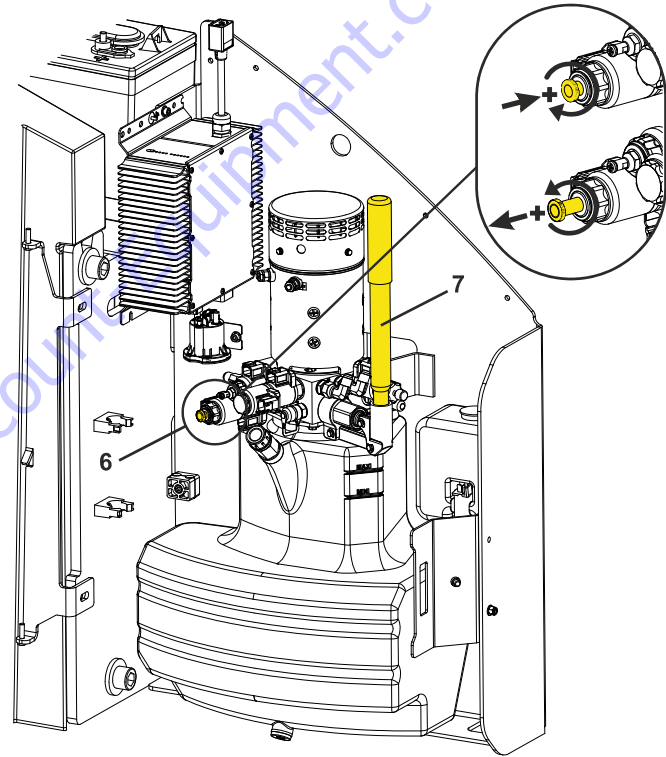

Figure 3-8. Manual Swinging Operating Devices
- a control valve (6) located on the pump/motor assembly. (Refer to Figure 3-8.)
- a hand pump (7), also located on the pump/motor assembly. (Refer to Figure 3-8.)